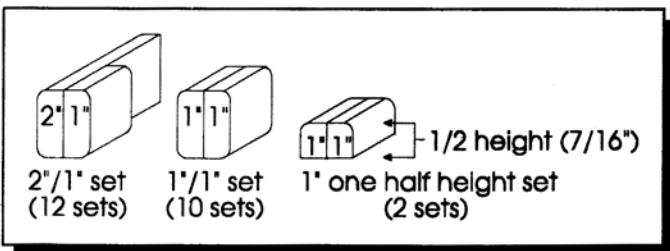

Figure 9- Back Walls
a. Using twelve 2" and thirty four 1" pieces, make twelve 2"/1" sets, ten 1"/1" sets and two 1" one half height pieces as shown in Figure 9.